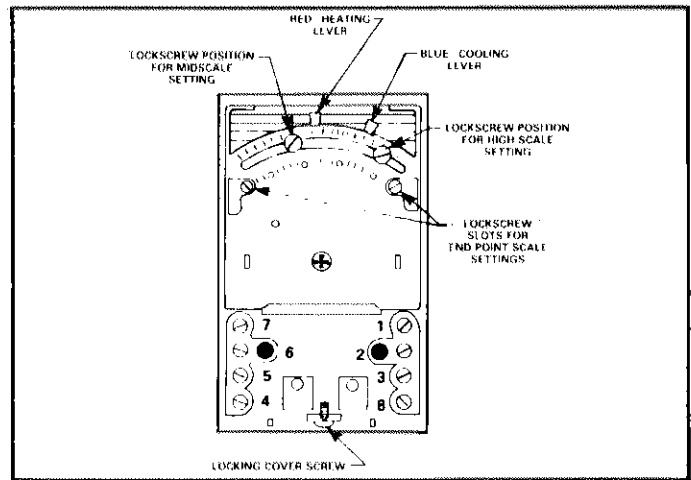

FIGURE 34
- 1 - Remove cover from room sensor. Connect voltmeter to terminals 3 (—) and 4 (+). See Figure 34.
5 - Table 3 lists the voltage ranges that reflect conditions at room sensor. Refer to Figure 34 for meter connections.